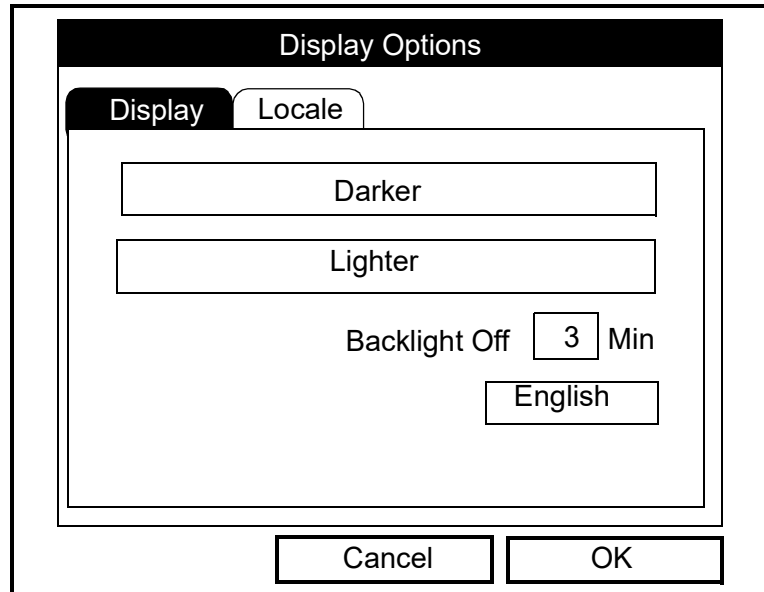

Figure 107: Display Tab in the Display Options Window
1. From the Meter menu, scroll to the Contrast entry and press **[ENTER]**. The Display Options window opens on the Display tab, as shown in Figure 107 below. (From the Format tab, press the **[◀]** key to move to the Display tab.) To step through each parameter, press the **[▼]** key.